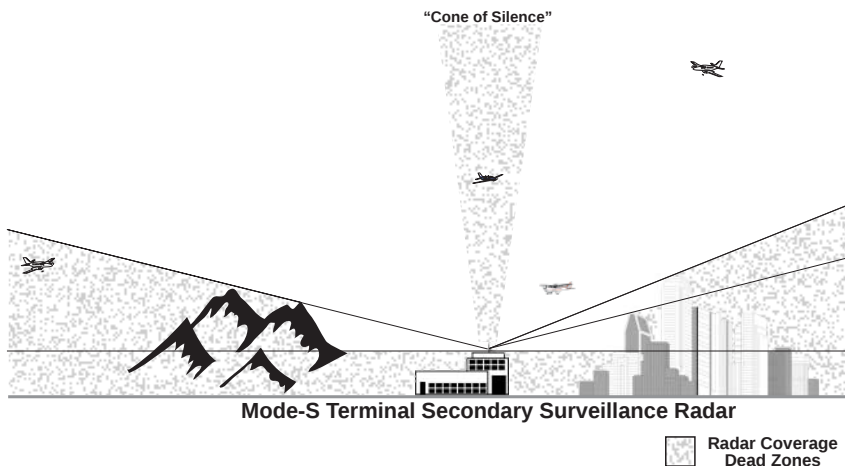

Figure 3-13 - Obstructions To TIS Coverage
3. Your aircraft is inside the “Cone of Silence. When near or above (depending on altitude) the TIS radar site, and out of range of another TIS radar site, TIS data cannot be received. See Figure 3-13.
5. Your aircraft is below radar coverage. With no obstructions and flat terrain, the coverage floor is about 2,000-3,000 feet at 60 miles and 4,000-6,000 feet at 100 miles. Terrain and obstacles can substantially decrease coverage range or make coverage asymmetrical about the radar site. See Figure 3-13.